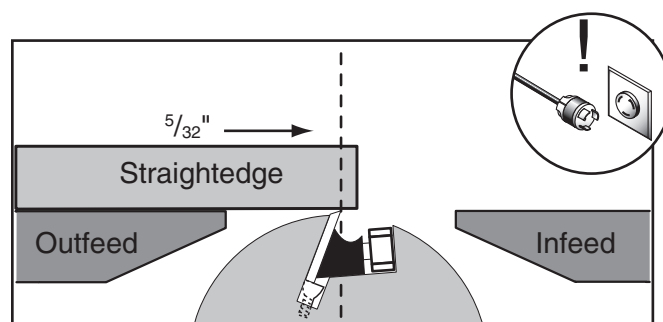

Figure 19. Using a straightedge to align outfeed table height with knife at TDC.
4. When correctly set, the knife will just touch the straightedge when the knife is at its highest point of rotation, as shown in **Figure 19**.